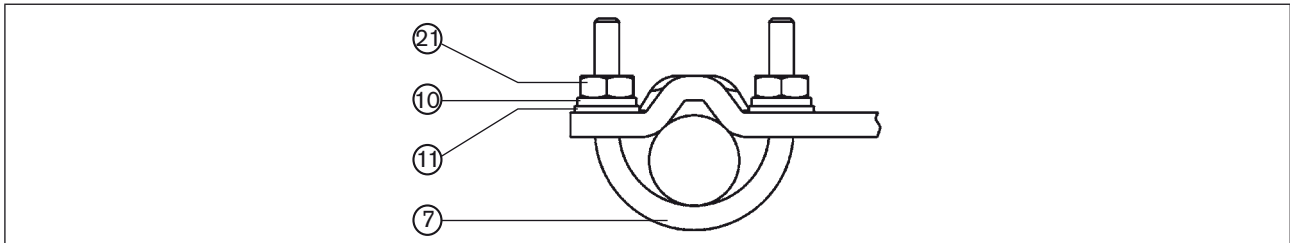

Fig. 18: Attach positioner with mounting bracket; for actuators with cast frame
→ Attach mounting bracket to the columnar yoke with the U-bolt (7), washers (11), circlips (10) and hexagon nuts (21) (see Fig. 18:).